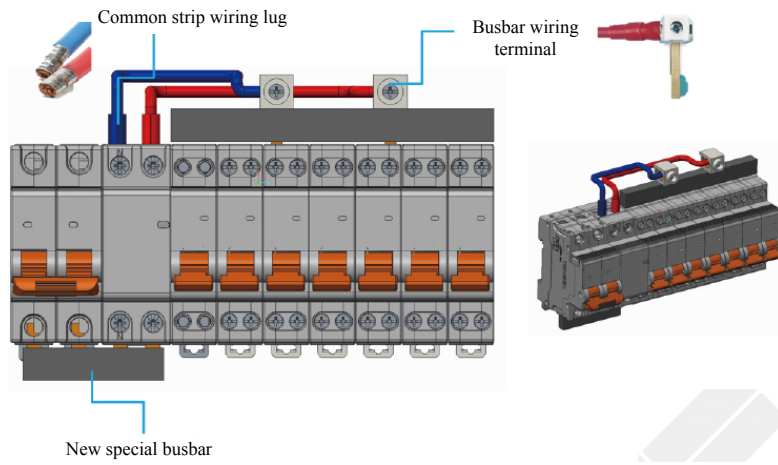

Fig. 4 Example of bus bar wiring diagram
- 6.4 The voltage action diagram sees Fig. 4.